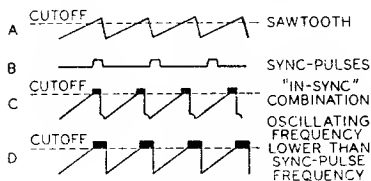

Fig. 71
across the capacitor  $C_2$ . A portion of this sawtooth is fed back to the grid of this control tube,  $V_1$ . The positive sync pulses are also applied to the grid of  $V_1$ . The waveforms shown in Fig. 71 illustrate the sawtooth and sync pulses (A and B) and their proper "in-sync" combination (C). The sync pulse occurs partly during the portion of the sawtooth voltage in which the triode  $V_1$  draws current. Any shift in sync pulse as it is superimposed
For example, waveform D in Fig. 71 illustrates a condition in which the sawtooth voltage is advanced in phase with respect to the sync-pulses. The widening of the pulse which occurs at the corner of the sawtooth waveform allows the control tube to conduct more current and, consequently, allows the capacitor  $C_1$  to charge to a higher voltage. This increased reference voltage also appears in the grid circuit of  $V_2$  and makes the grid more positive. The increased grid voltage then speeds up the frequency of oscillations until proper synchronization results.